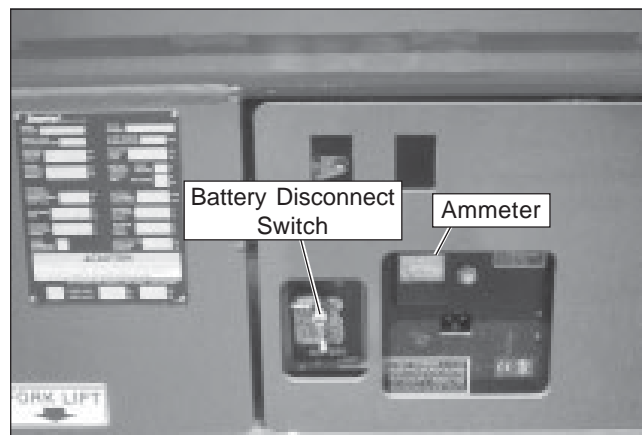

Figure 6.1 – Battery Tray
1. Turn the battery disconnect switch off (refer to Figure 6.1). The switch is next to the latch on the battery tray.
3. Plug the charger into a properly grounded AC outlet using a 3 conductor, 14 gauge or larger extension cord. The extension cord must be as short as possible and in good electrical condition. Make sure the AC voltage selector switch on the charger is set to the same voltage as the outlet voltage. The charger will turn on three to five seconds after a complete electrical connection is made. The ammeter (refer to Figure 6.1) will indicate near 40 amps initially then taper off to 5 to 10 amps as the batteries charge.